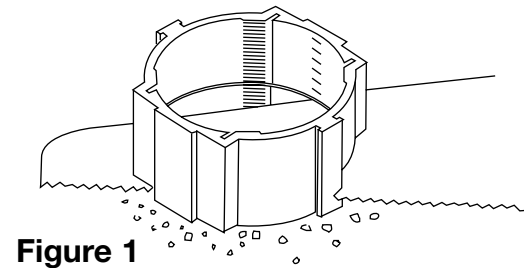

Figure 1
1. Use a hand saw to cut the top of the box extending above the floor surface (see Figure 1).